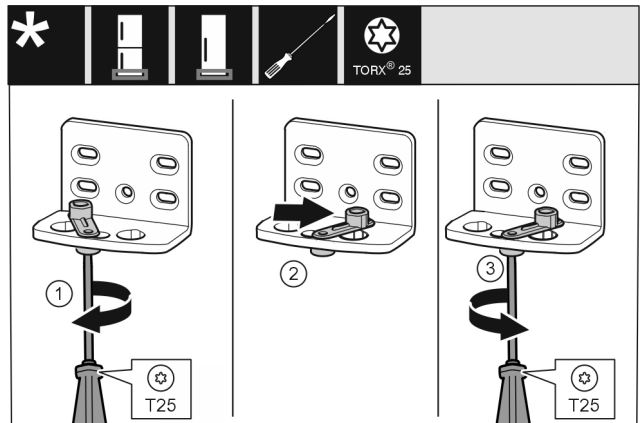

Fig. 14
- ▶ Loosen the screw using a T25 screwdriver. Fig. 14 (1)
- ▶ Lift the door closing aid and turn it 90° to the right in the hole. Fig. 14 (2)
- ▶ Tighten the screw using the T25 screwdriver. Fig. 14 (3)